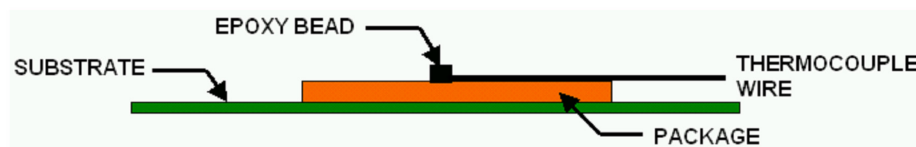

Figure 71. Technique for Measuring T_{case} with a 0° Angle Attachment
- Attach the thermocouple at a 0° angle if there is no interference with the thermocouple attach location or leads (Figure 71). This is the preferred method and is recommended for use with non-enhanced packages.